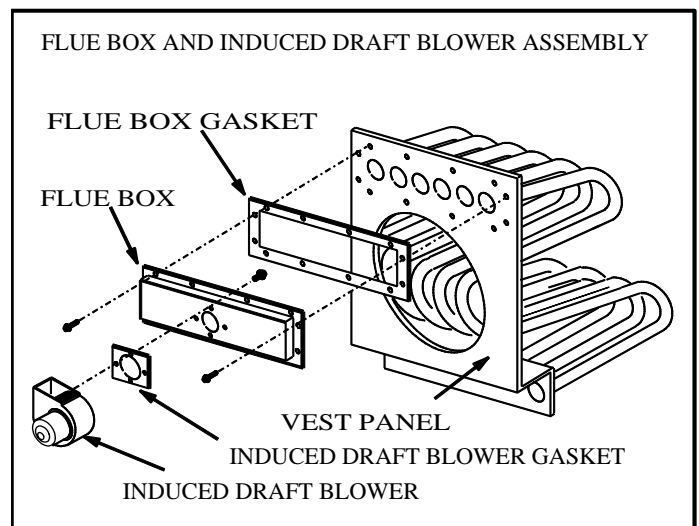

FIGURE 1
- 3- With no electrical or gas connections in place, remove the securing screws on the flue box/induced draft assembly. See figure 1.